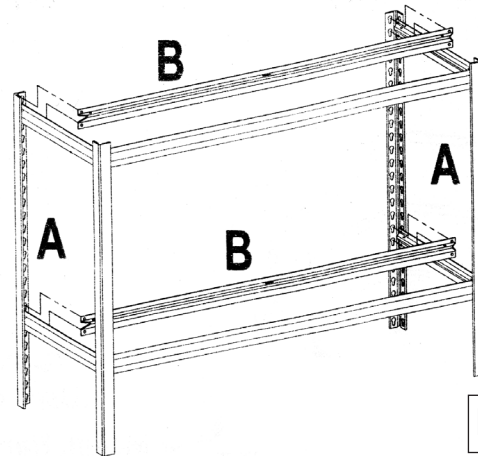

Fig.14
4.12 See Fig.14. Join the two end frames together using the four remaining long 'Z' beams as shown above. Ensure that each 'Z' beam is facing upwards. Tap the beams at either end, close to each angle post with a rubber mallet to ensure that the rivets are seated at the bottom of the keyhole slots.